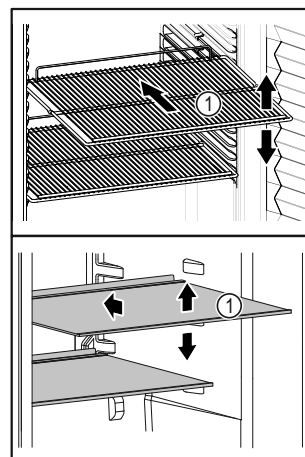

Fig. 40 Example illustration
- ❑ If storage surfaces *Fig. 40 (1)* are movable, adjust them according to height.